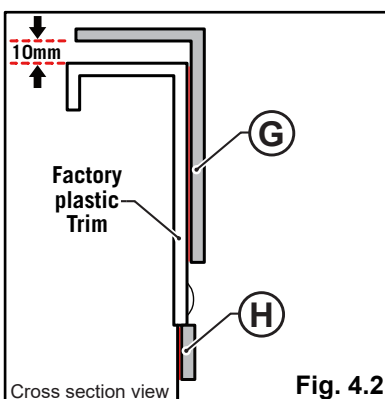

Fig. 4.2
- Align and mark the section to stick on the Front Rail. Remove red backing tape and carefully stick the Front Rail (G), leaving a 10mm gap as shown in Fig. 4.2